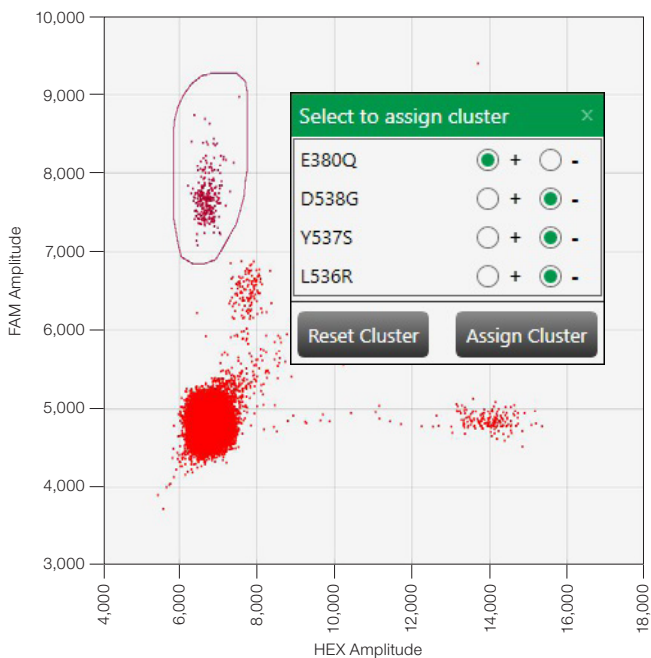
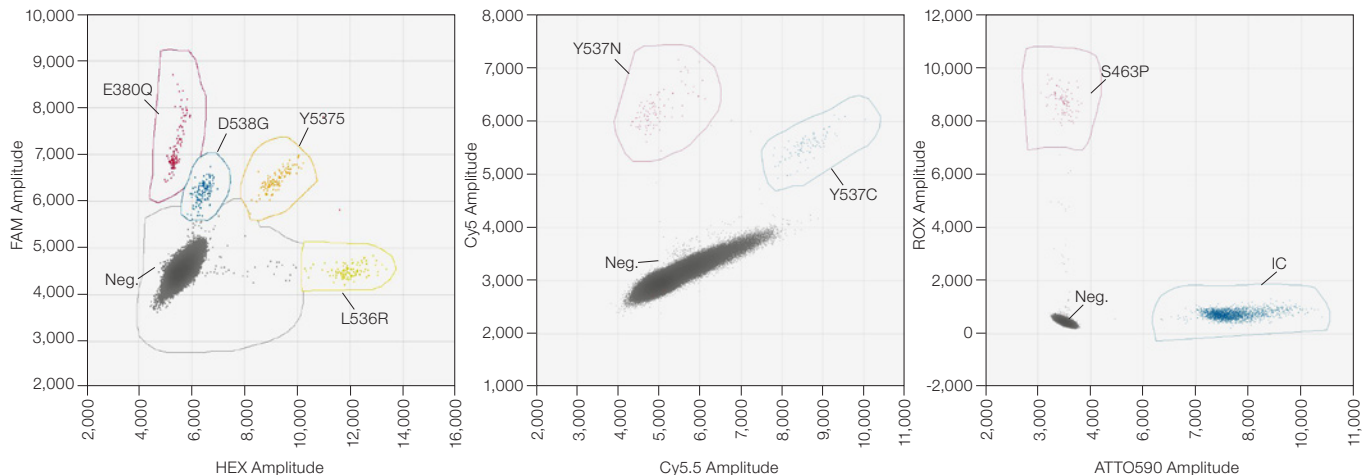

Fig. 8. Assigning clusters.
Fig. 9. Cluster assignments for the ESR1 mutant assay.
3. Starting with the FAM/HEX (Ch1/Ch2) plot, draw circles around each positive cluster using the pencil tool. In the pop-up menu that appears after selecting a region, click on the radio buttons to set the cluster assignment and click "Assign Cluster" as shown in Figure 8. Each positive cluster should be set as positive for the appropriate target and negative for the others. Refer to Figure 9 for the cluster designations. The positive control wells are good indicators of the positions of each cluster. It is recommended to threshold relatively tightly around the densest cluster regions.